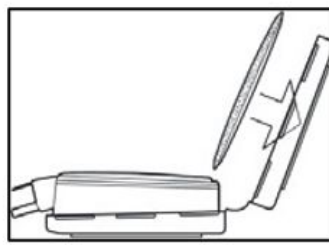
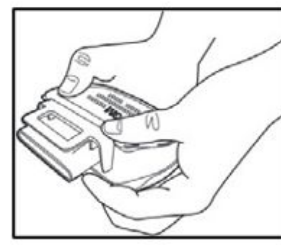

Fig.7
Fig.8
3. Orient a filter in the other half of the filter retainer so the shape of the filter aligns with the shape of the filter retainer and the printed side of the filter faces down (Fig. 7). Wrap the opposite end of the retainer around the cartridge and secure by pressing down on all four corners of the cartridge/filter retainer (Fig. 8).